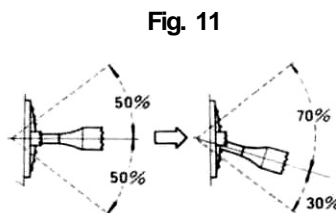

Fig. 11
- Furnished swing arm B is convenient when the neutral position of the swing lever is shifted approximately 1/3 as shown in Fig. 11.